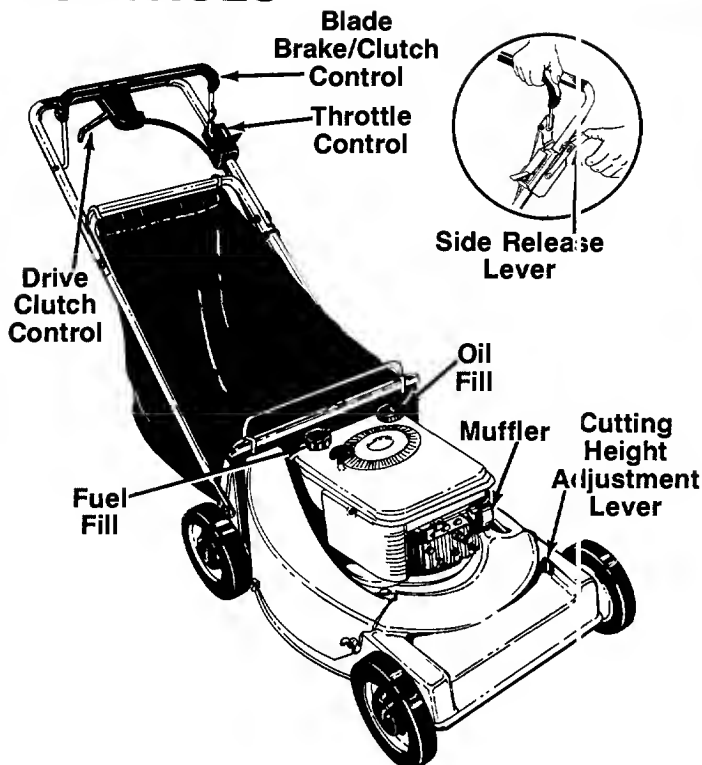

FIGURE 15.
The throttle is located on the left side of handle. It controls engine speed. See figure 15.
Squeezing the drive clutch control engages the drive mechanism to the rear wheels. Releasing the clutch control stops the rear wheels from driving. Release the drive clutch control to slow down when negotiating an obstacle, making a turn or stopping. See figure 15.
To engage the blade, pull the side release lever away from the unit. See figure 15. Pull the blade brake/clutch control handle against the upper handle. Release side lever.
2. To engage the blade, pull the side release lever away from the unit. Pull the blade brake/clutch control handle down against the upper handle. Release the side lever. See figure 15.